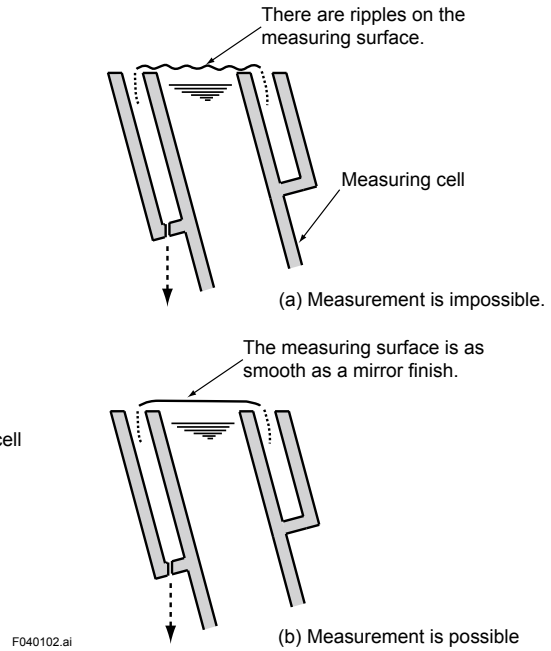

Figure 4.2 Water Level of Detector
- (5) Gradually open V3 and confirm that the water surface becomes as smooth as a mirror finish as shown in Figure 4.2 (b).